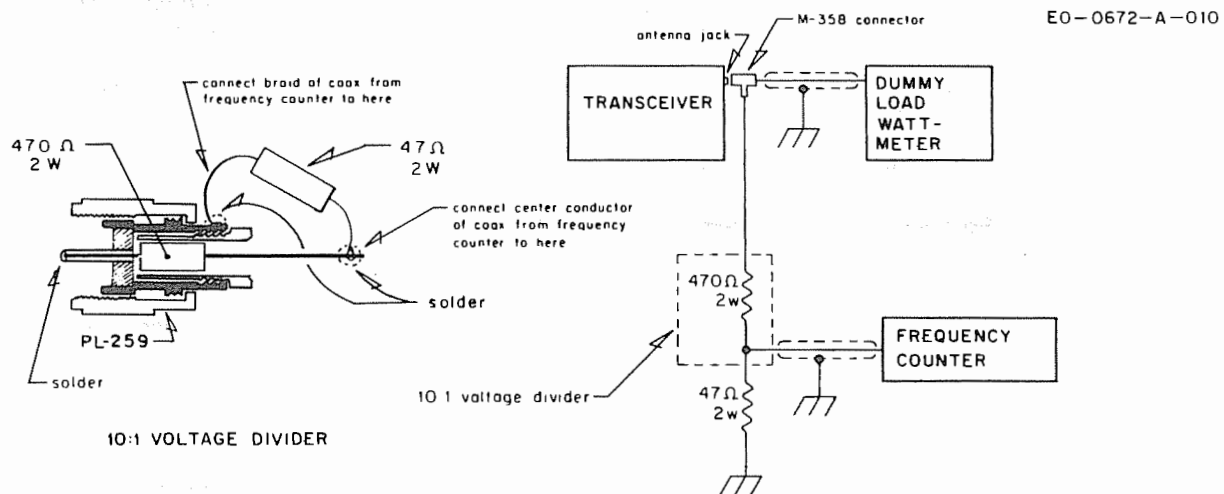

Figure 3-4. Connection of Frequency Counter and Dummy Load
2. Connect the frequency counter to the antenna connector as shown in figure 3-4. Read the frequency at each channel. The frequency should be within $\pm 800\text{Hz}$ from each center channel frequency as tabulated in the frequency table.